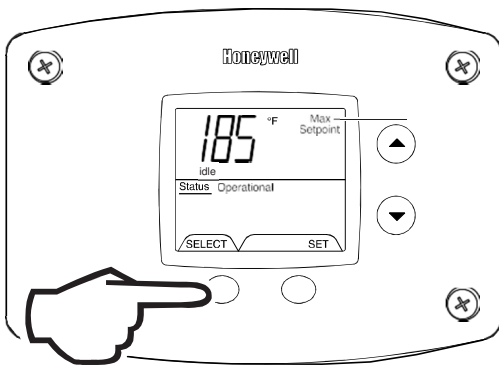

Figure 29
1. Max Setpoint (Display/Change) (Fig. 29).